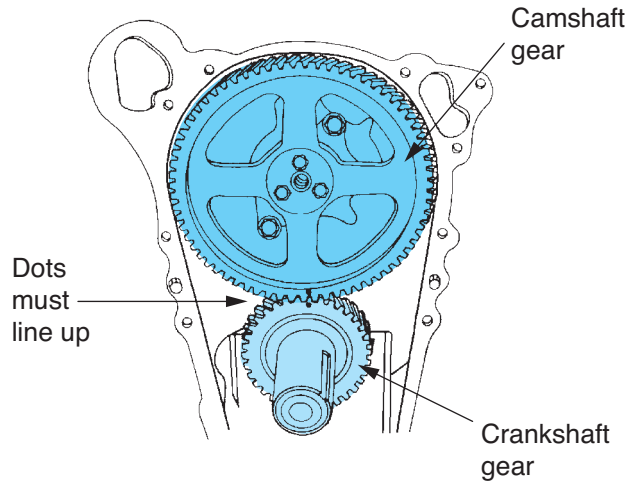

Figure 3-15 Gears can provide direct drive linkage between crankshaft and camshaft.
3. **Timing gear train.** The camshaft and crankshaft gears can be connected directly, or meshed (**Figure 3-15**). This type of operating linkage is commonly used on older six-cylinder, in-line engines (not V6 units) and on some flat-four engines.